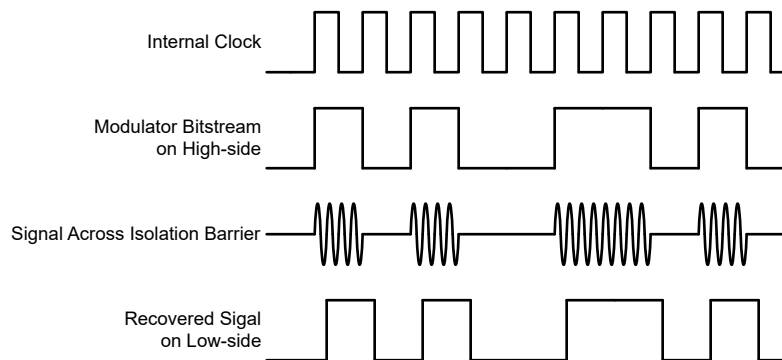

Figure 7-1. OOK-Based Modulation Scheme
As shown in Figure 7-1, the AMC0x00D-Q1 uses an on-off keying (OOK) modulation scheme to transmit the modulator output bitstream across the SiO₂-based isolation barrier. The transmit driver (TX) is illustrated in the Functional Block Diagram. TX transmits an internally generated, high-frequency carrier across the isolation barrier to represent a digital *one*. However, TX does not send a signal to represent a digital *zero*. The nominal frequency of the carrier used inside the AMC0x00D-Q1 is 480MHz.